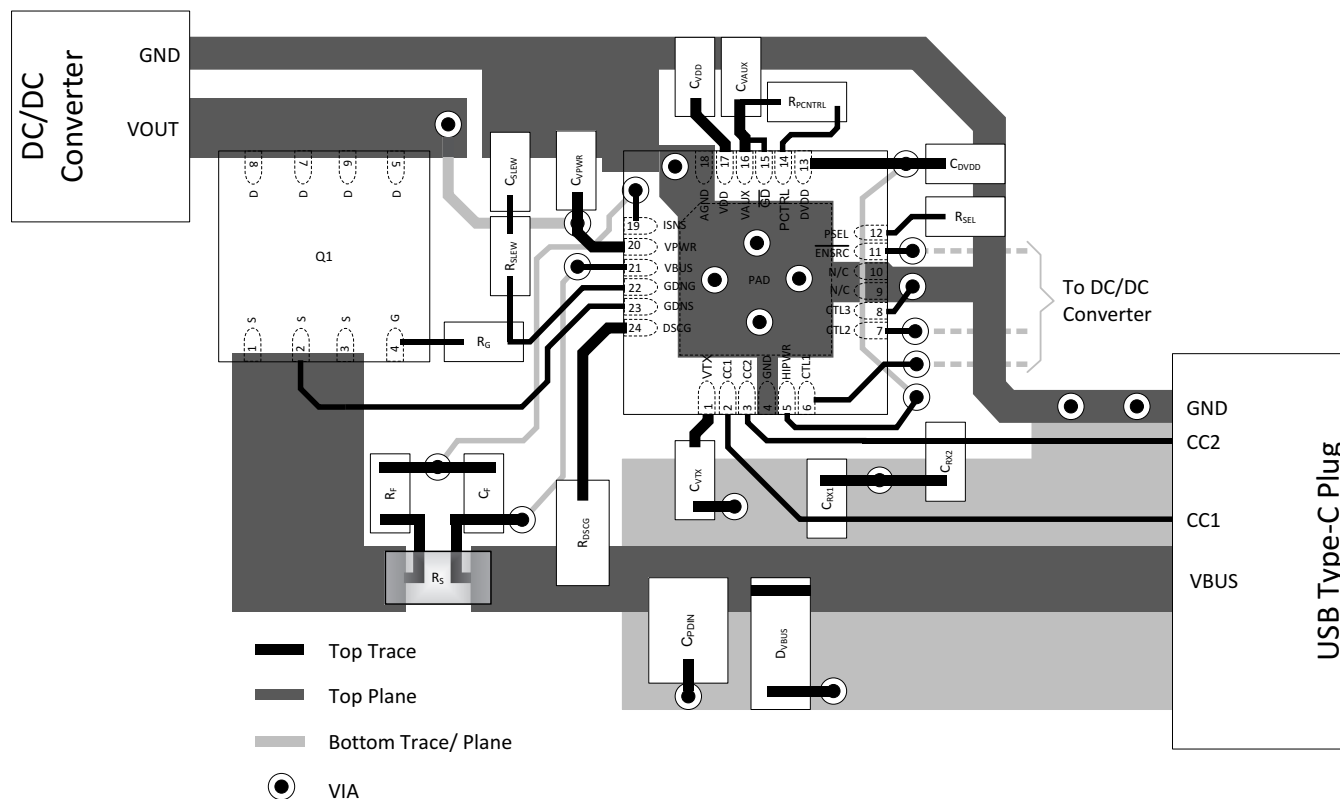

Figure 72. Example Layout
- $C_{(VPWR)}$: Place close to pin 20 (VPWR) and connect with low inductance traces and vias according to Figure 72.
- $C_{(VDD)}$: Place close to pin 17 (VDD) and connect with low inductance traces and vias according to Figure 72.
- $C_{(DVDD)}$: Place close to pin 13 (DVDD) and connect with low inductance traces and vias according to Figure 72.
- $C_{(VAUX)}$: Place close to pin 16 (VAUX) and connect with low inductance traces and vias according to Figure 72.
- $C_{(VTX)}$: Place close to pin 1 (VTX) and connect with low inductance traces and vias according to Figure 72.
- R_S : Place R_S as shown in Figure 72 to facilitate uninterrupted power flow to the Type C connector. Orient R_S for optimal Kelvin sense connection/routing back to the TPS25740B. In high current applications where the
- R_G : Place R_G near Q_1 as shown in Figure 72. Minimize stray leakage paths as the GDNG sourcing current could be affected.
- $R_{(SLEW)}/C_{(SLEW)}$: Place $R_{(SLEW)}$ and $C_{(SLEW)}$ near R_G as shown in Figure 72.
- R_F/C_F : When required, place R_F and C_F as shown in Figure 72 to facilitate the Kelvin sense connection back to the device.
The basic component placement and layout is provided in Figure 72. This layout represents the circuit shown in Figure 38. The layout for other power configurations will vary slightly from that shown below.